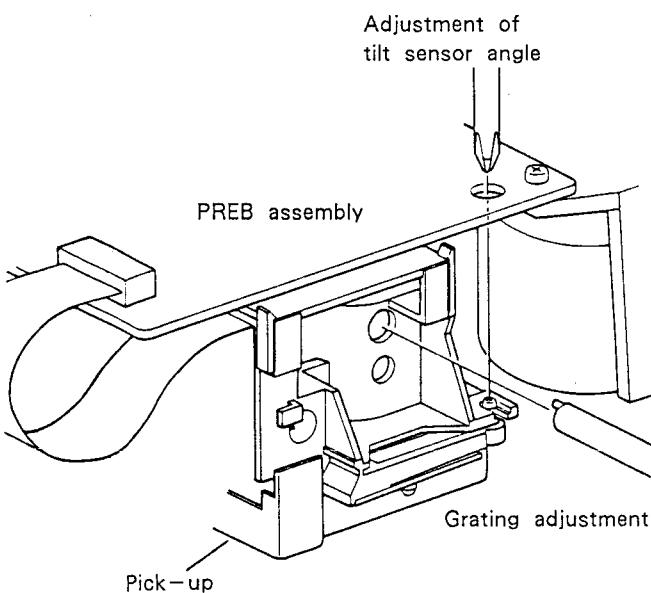

Fig. 7-2. Pick-up Adjustment Locations
- Connect Pins ② and ② of IC301 (PM4001) of SRVB unit. (TRKG servo is open.)
- Mount the screwdriver for grating adjustment as shown in Fig. 7-2.